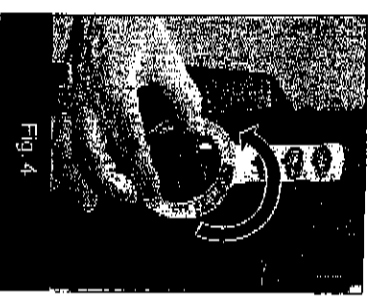

Fig. 4
4. Push and turn the control knob and position the knob at the "warm" setting. (Fig. 4)